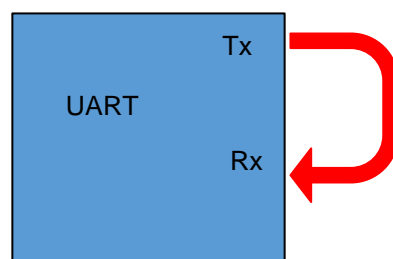

Figure 5. UART-A in LOOP-BACK mode
- `leon3_uart_ctrl_config_rxtx_loop` (`uint8_t set_rxtxloop`) function that receives as parameter the value to be set in the `loop_back` field of the UART-A control register (see figure 5), so that if `set_rxtxloop` is 1, the LOOP_BACK mode of the UART is enabled and if it is 0, it is disabled.